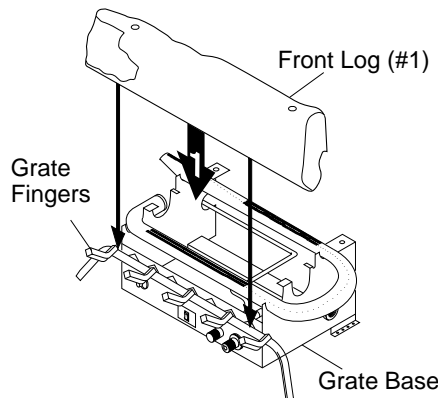

Figure 26 - Installing Front Log (#1)
1. Place the front log (#1) on the grate fingers. Make sure the front log rests firmly between the grate fingers and the grate base (see Figure 26).